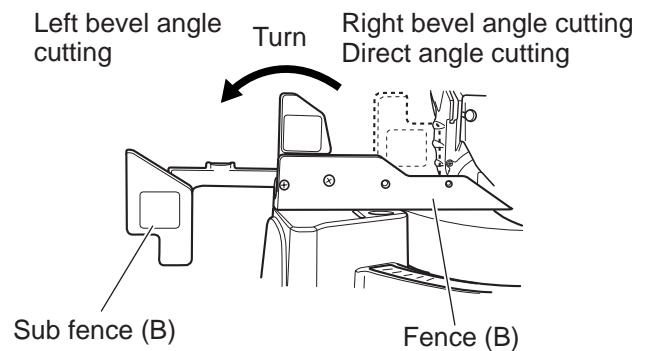

Fig. 20
In the case of left bevel cutting, raise sub fence (B) up as illustrated in Fig. 20 and turn it counterclockwise.